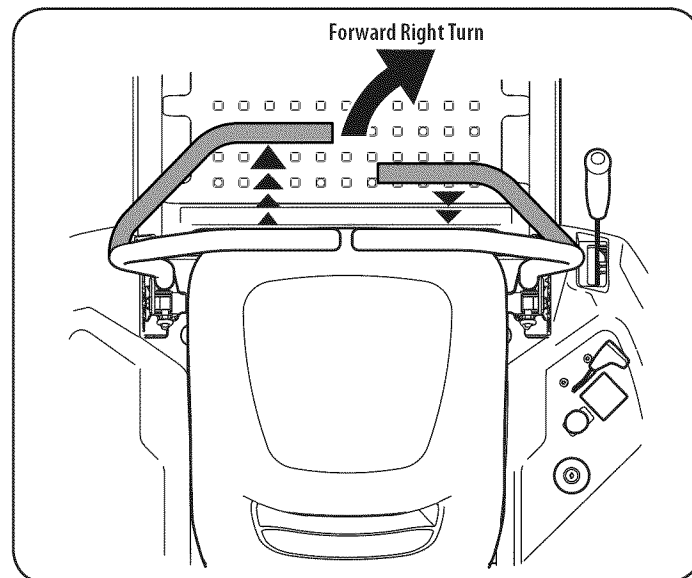

Figure 15
2. To turn to the right, move the right drive control lever rearward of the left lever. See Figure 15.